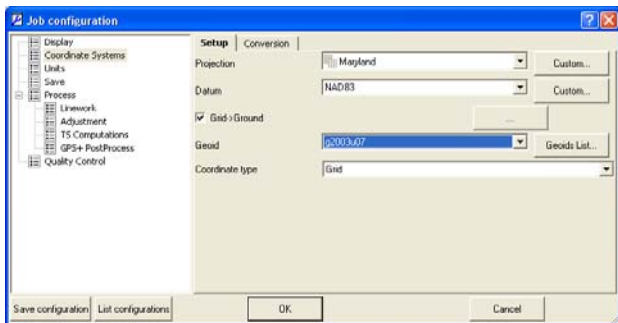

Figure 2-2. Job Configuration – Coordinate Systems
2. Click **Coordinate Systems** (Figure 2-2), select the projection grid (USA->SPC83-> Maryland) and select the needed geoid (g2003u08.bin) for the given area.